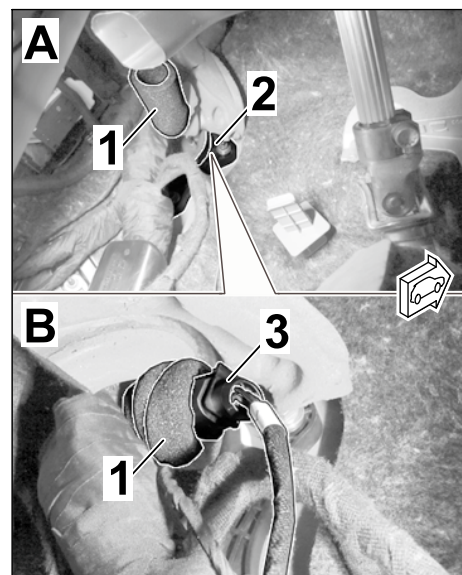

Figure 28
- 3.1.1 Expose the connection point (preparation = socket connector, 6-pin) in the passenger compartment of the vehicle, area of bulkhead grommet, A-pillar left (⇒ Figure 28 -A-).
- 3.1.3 Establish a connection between the plug connection preparation and the wire harness for the exhaust flaps (6-pin) ⇒ Figure 28 -B-).